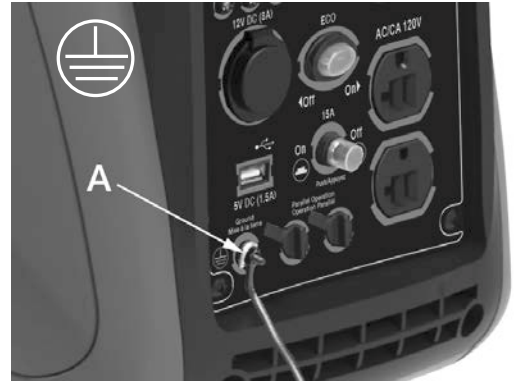

Figure 4
Before operating make sure to ground the generator. A ground terminal (A) Fig.4 identified by the ground symbol can be found on the front control panel of the generator, attach a metal spike to a wire, attach the wire to the ground terminal and ground the metal spike into the earth. Your local electrical company or certified electrician should be able to help you with this information. See Fig.4.